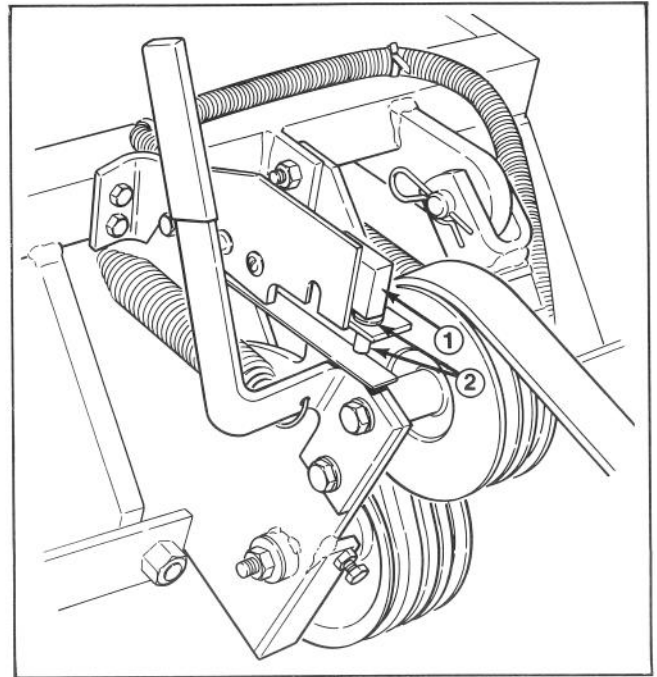

Figure 23
5. Check coring head switch (Fig. 23) with a continuity tester or ohm meter and replace if damaged. The switch must be closed when the coring head is in the raised position.